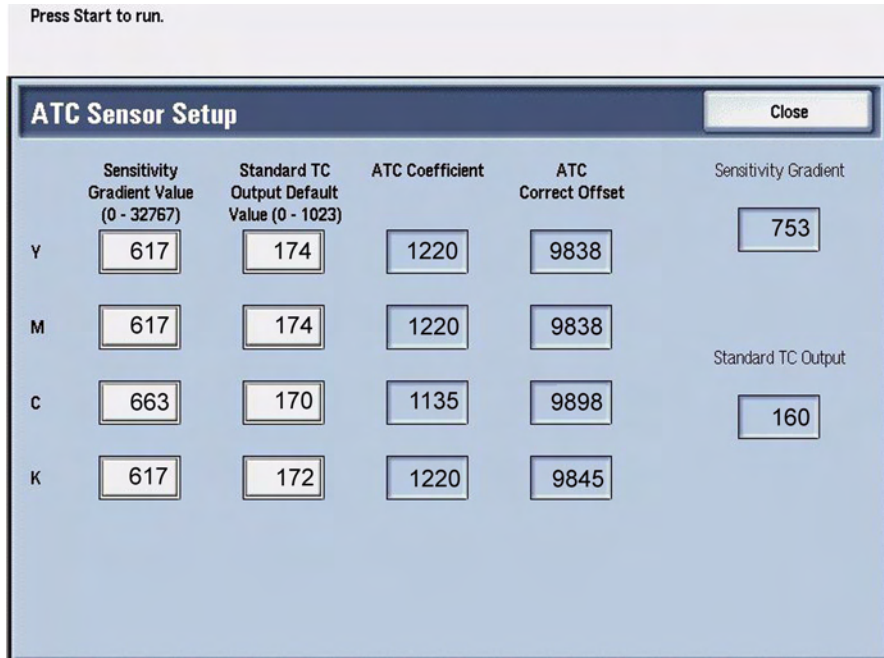

Figure 1 Sample ATC Sensor Setup Values
- d. Check the values in the 4 rows of numbers in the window (Figure 1). The default values for these rows are: